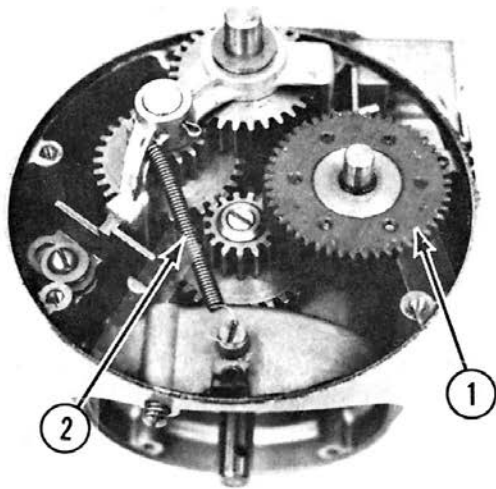

Fig. 3-9
- C. Remove the main drive gear (1, Fig. 3-9) by lifting it off the eccentric shaft.
- D. Disconnect the tumbler yoke spring (2, Fig. 3-9) from the screw on the transmission case.